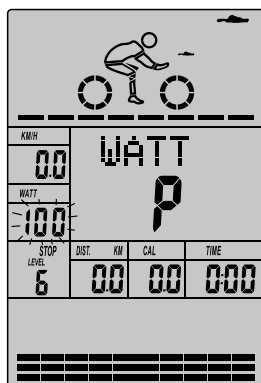

Fig 30
- The watt display will flash, and then press (or rotate) button UP/DOWN to set up the watt to do the exercise. Press ENTER to confirm the value. (Fig 30)